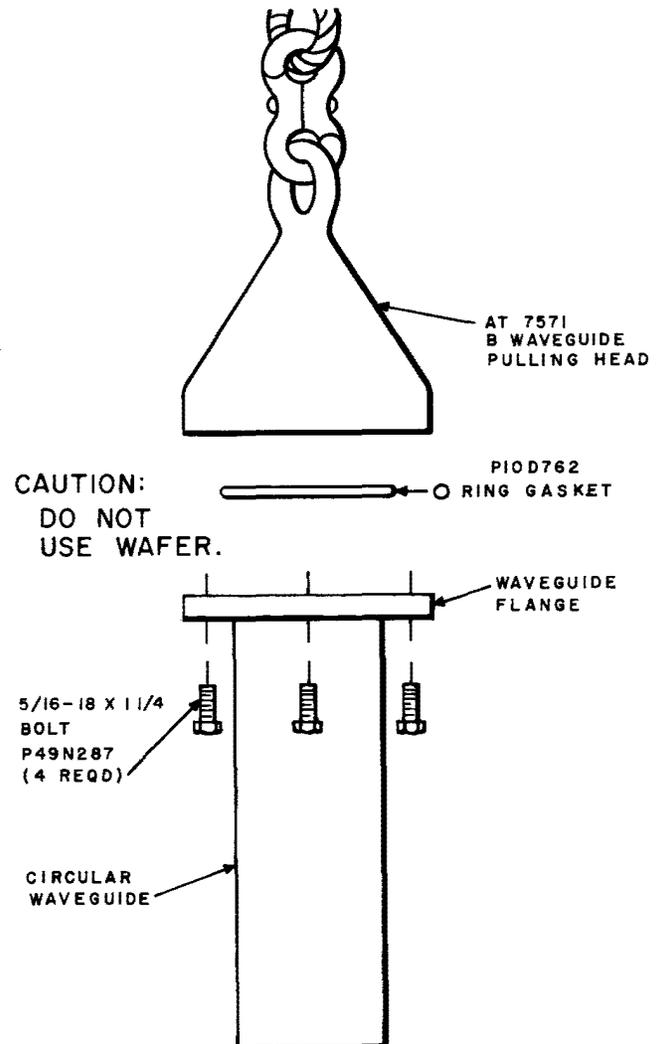
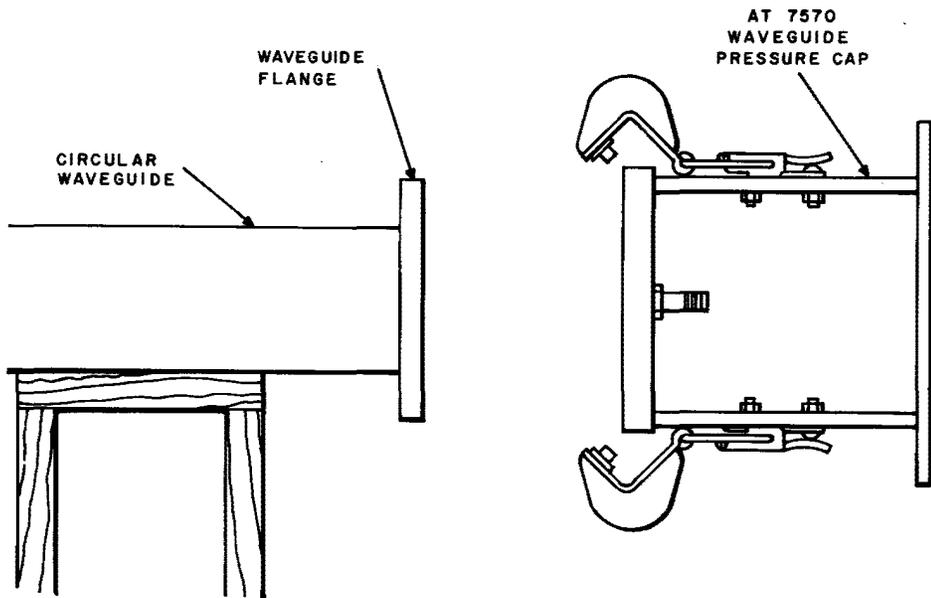
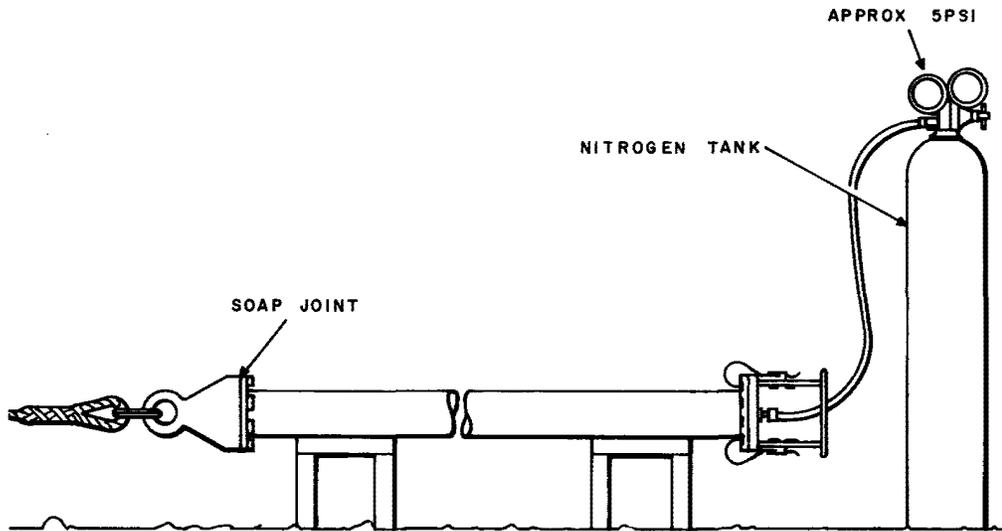

Fig. 3—Attachment of Pulling Head
Fig. 4—Attachment of Pressure Cap
Fig. 5—Pressure Test of Pulling Head Connection
2.11 Remove the protecting cover from one end of the first length of waveguide to be installed, and attach the waveguide pulling head, using four of the waveguide bolts. This assembly should be joined by one of the O-ring gaskets furnished with the waveguide as shown in Fig. 3. Remove the cover from the other end of the waveguide and install the waveguide pressure cap as shown in Fig. 4. Pressurize the waveguide section with dry nitrogen to a pressure of 5 PSI. Soap the joint between the waveguide flange and the pulling head, as shown in Fig. 5. Check the